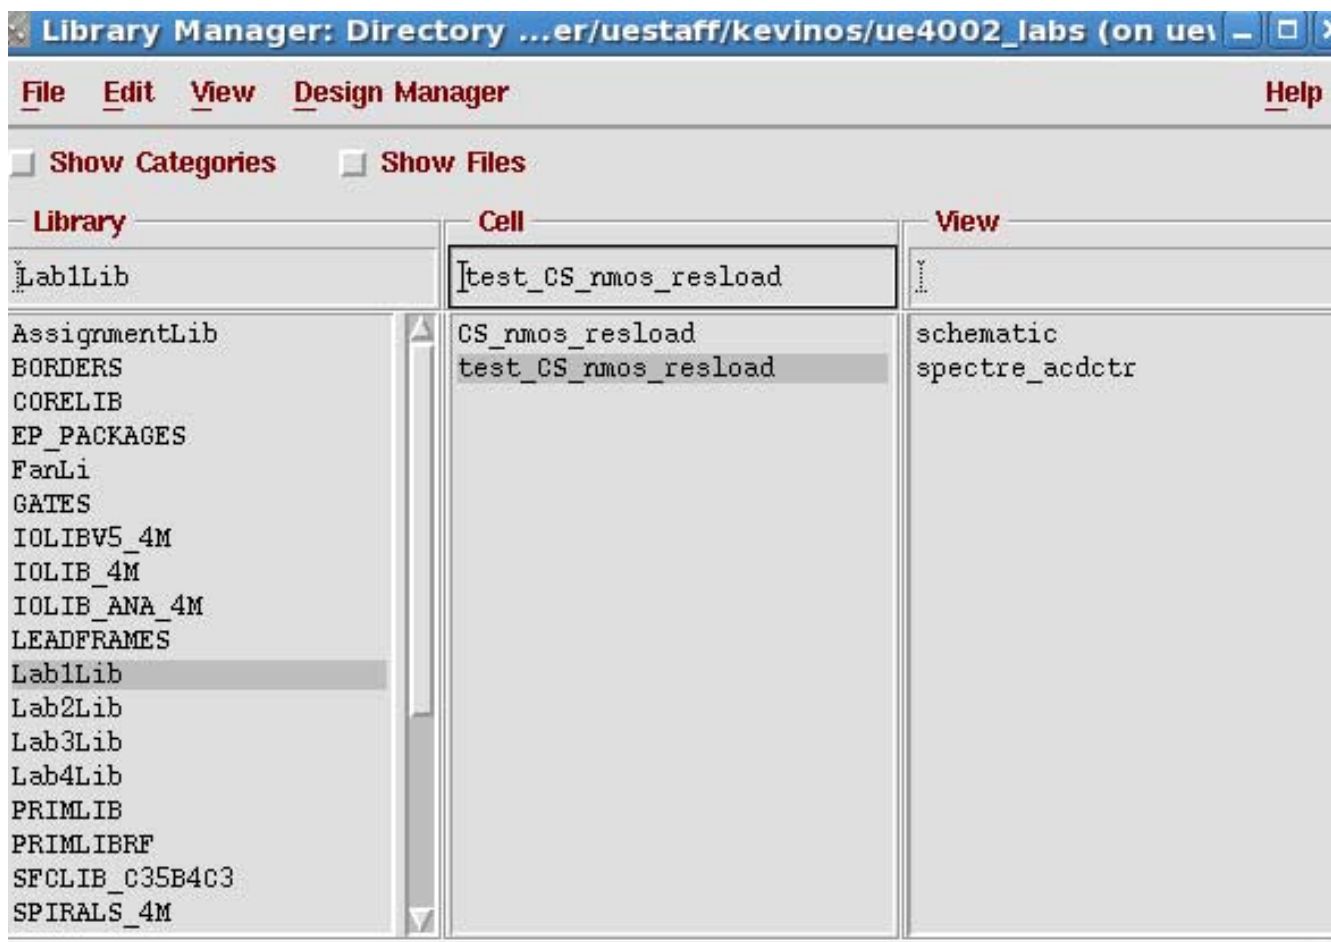

Figure 29: Library manager showing artist state stored as cellview
- [1] In the ADE/Session/Save State... menu, choose Save State Option: Cellview, enter a suitable name for the state in the Cellview Options State field, and then press OK (see Figure 30). Here the state has been named spectre_acdctr, but any suitable name is OK. The artist state is stored as a cellview alongside the schematic cellview (see Figure 29).